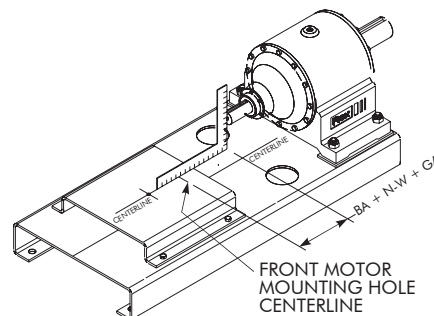

Figure 8A — Layout of Motor Mount Holes on Pedestal
- With a carpenter's square positioned as shown in Figure 8A (next column), measure off the distance that was calculated where the center of the front motor mounting holes are with respect the end of the reducer input shaft. Mark the distance on the center line of the pedestal.